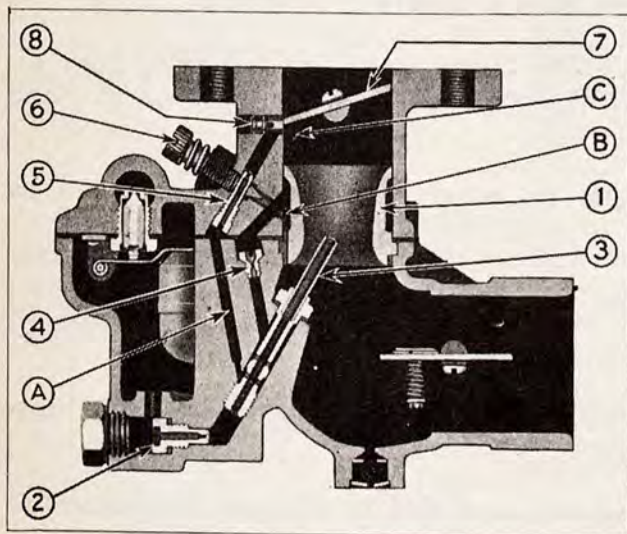

Figure 1
The removable Venturi (1) (see Figure 1) increases the velocity of air which passes through the carburetor. In selecting the venturi, it is best to use the smallest size which will permit full power development.
Figure (2) shows the position of the throttle shaft (9) at closed throttle. At this point no suction is transmitted to the bowl, because the channel (C) (see Figures 1 and 2) is below the throttle plate (7), thus permitting a full flow of fuel through the idling system.